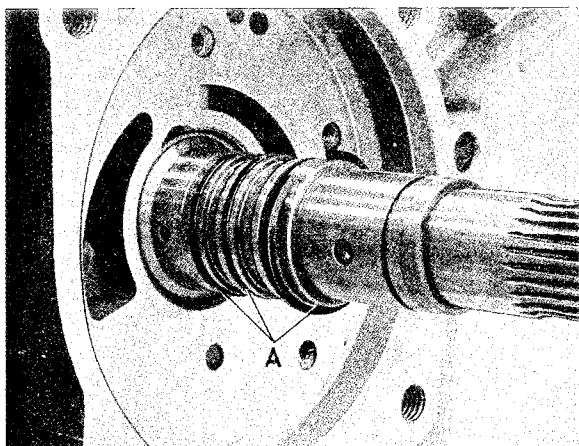

Fig. 4-93. Driven shaft oil rings installed
4. Install the three oil sealing rings on the shaft, see Fig. 4-93. Exercise care when doing this as the oil sealing rings are very fragile. Stand the box on its front end and support under the shaft. Center the oil rings. The oil deflector flange is then fitted.